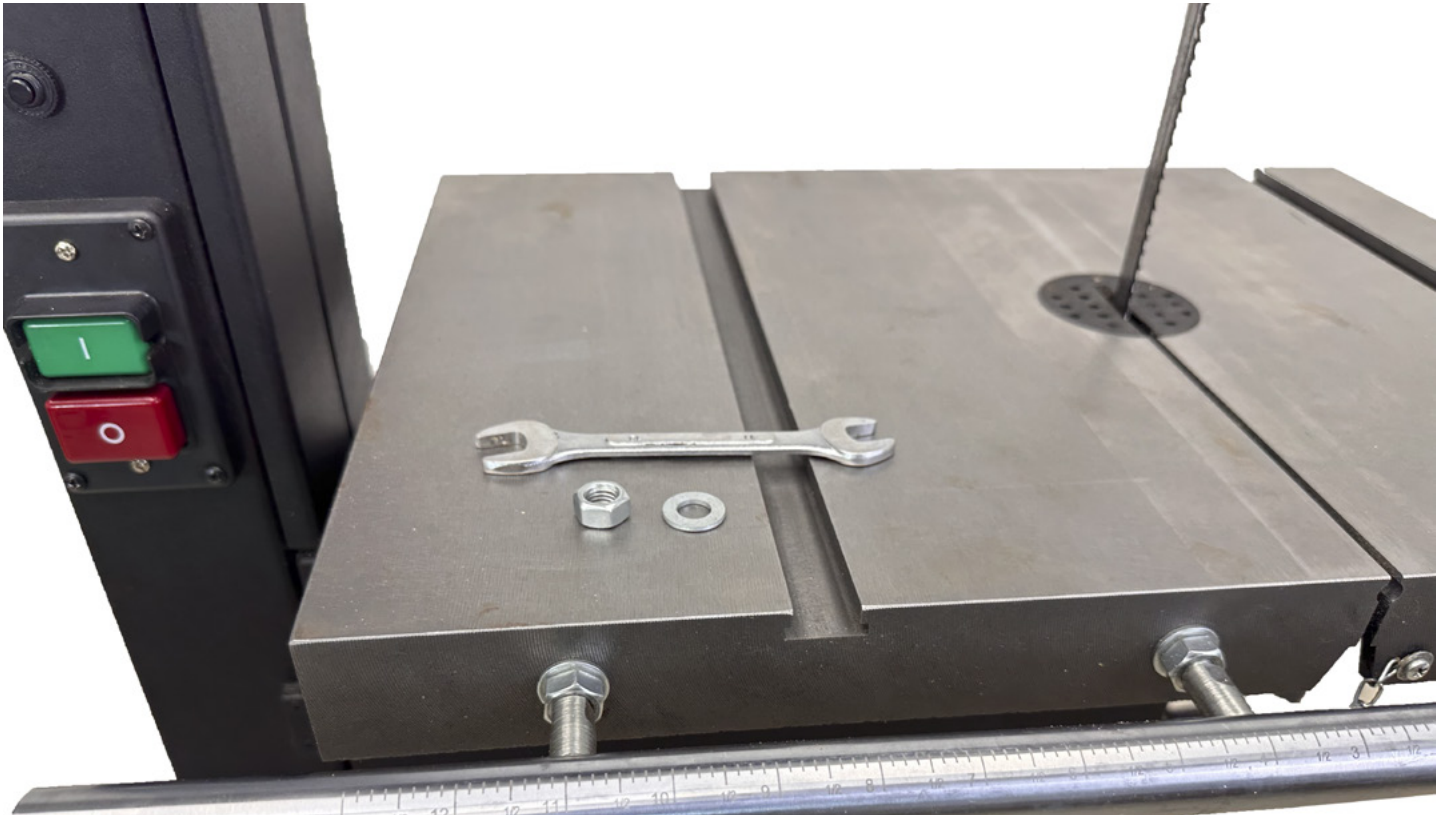

Figure 2
2. Attach the fence guide rail (#12 see diagram) to the front edge of the table using the two fence connecting rods, nuts, and washers (#13, 14, 5 see diagram) as shown in Figure 2.